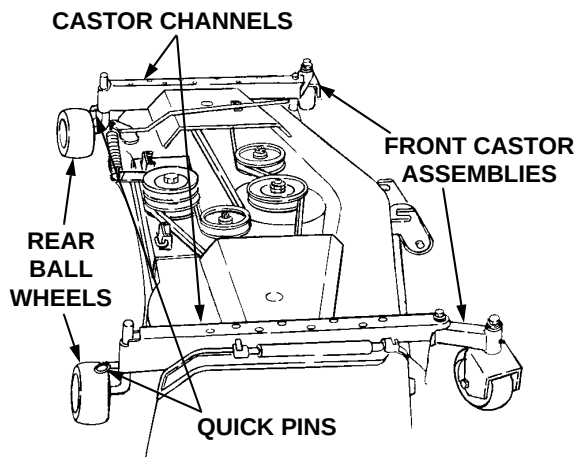

Figure 33
2. To aid in sliding the deck under the tractor, reposition all four ball wheels as shown in Figure 33. To reposition the rear wheels; remove the quick pins, rotate the rear wheels 90°, and raise them to their uppermost position in the castor channels. Install the two quick pins in the rear holes of the castor channels to secure the rear wheels in this position. Temporarily remove the quick pins and rotate the front castor assemblies outward. The deck should now rest in its lowest position on the surface below.